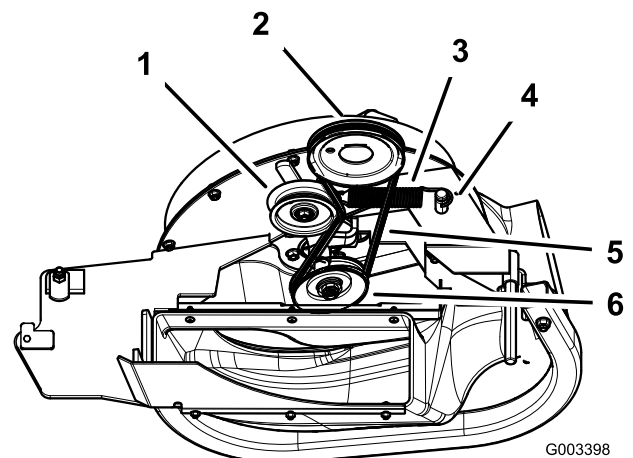

Figure 35
3. Pull back on the spring loaded idler pulley to relieve the belt tension (Figure 35).
5. Install the new belt around the blower pulleys and the mower deck pulley (Figure 35).
7. Pull back on the spring loaded idler pulley and install the belt onto the spring loaded idler pulley (Figure 35).